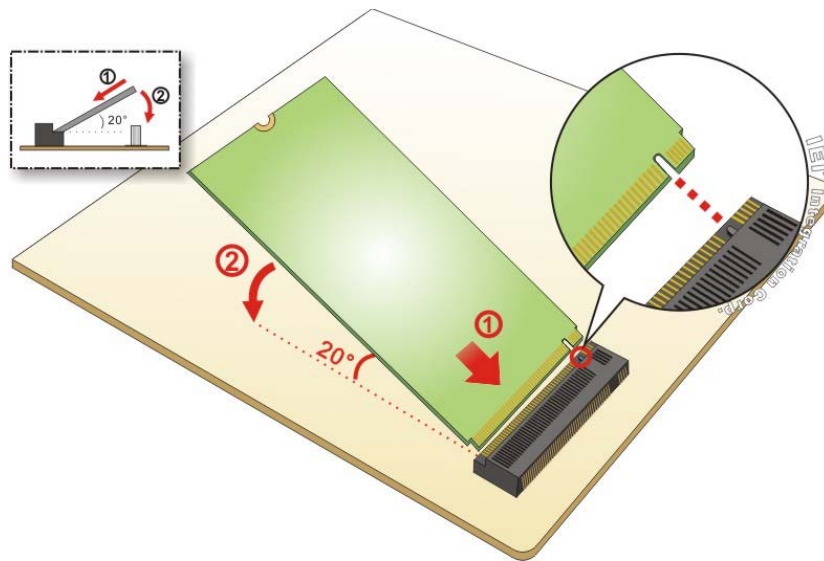

Figure 3-7: Inserting the M.2 Module into the Slot at an Angle
Step 3: Line up the notch on the card with the notch on the slot. Slide the PCIe Mini card into the socket at an angle of about 20° (**Figure 3-7**).